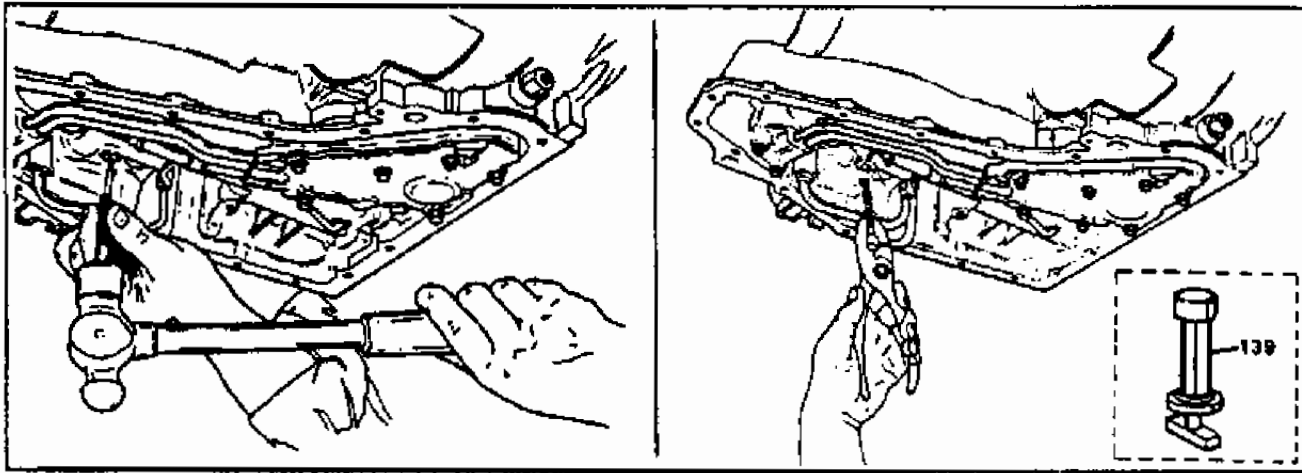

Figure 32
- (2) 1-2 BAND STOP ASSEMBLY - The 1-2 Band Stop has been eliminated as it is no longer needed (See Figure32).
The new style 1-2 Band Assembly can be used to service ALL past models, but the 1-2 Band Stop MUST be removed and discarded (See Figure32).